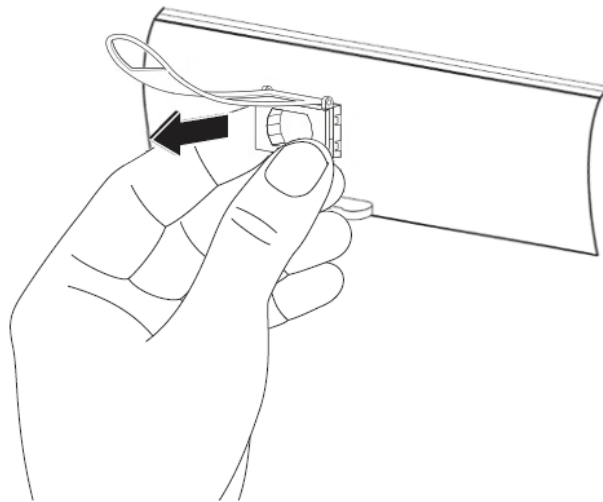

Figure 19: Removing a QSFP+ Module from the port
4. Grasp the module between your thumb and index finger and carefully remove it from the port, as shown in Figure 19.